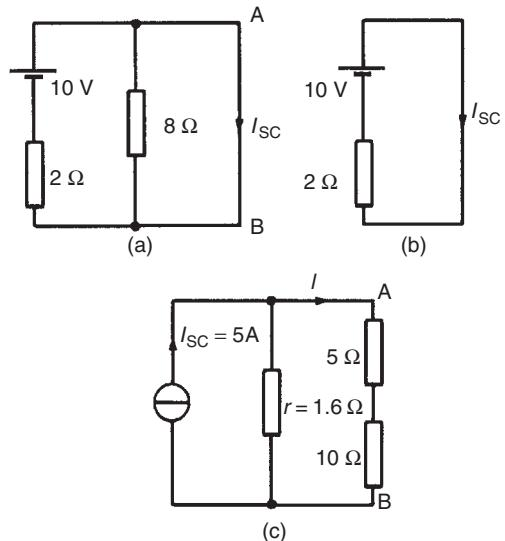

Figure 13.55
- (i) The branch containing the 10Ω resistance is short-circuited as shown in Fig. 13.55(a)
- (ii) Fig. 13.55(b) is equivalent to Fig. 13.55(a).
- (iii) If the 10V source of e.m.f. is removed from Fig. 13.55(a) the resistance 'looking-in' at a break made between A and B is given by:
- (iv) From the Norton equivalent network shown in Fig. 13.55(c) the current in the 10Ω resistance, by current division, is given by: